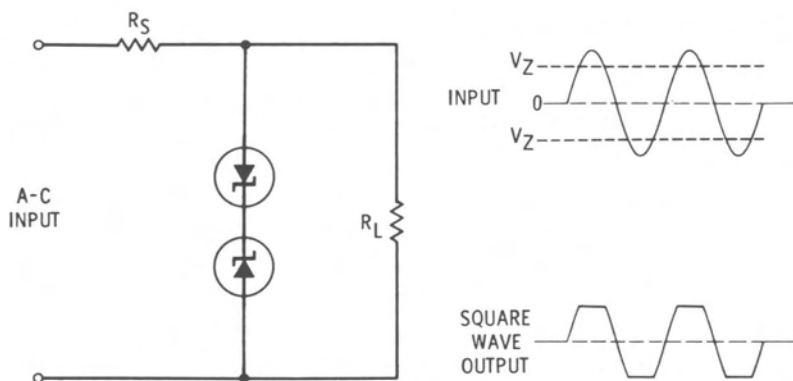

Fig. 6-8. Zener-diode clipper.
Another interesting application is the zener-diode clipper shown in Fig. 6-8. Two zeners are used back to back so that when the polarity of the input is such that one conducts as a zener, the other acts as a regular diode. If an alternating sine wave is applied to the input, a square wave will result
- Q6-8. The zener diode in the illustration of Fig. 6-8 limits the collector voltage to a value equal to _____.